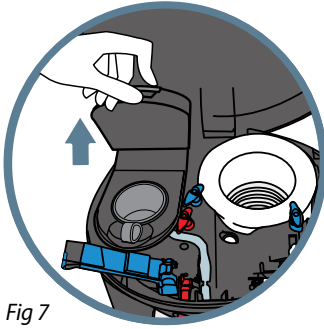

Fig 7
- With the cooler top still open, open the K-Cup® pod assembly lid (Fig. 7).